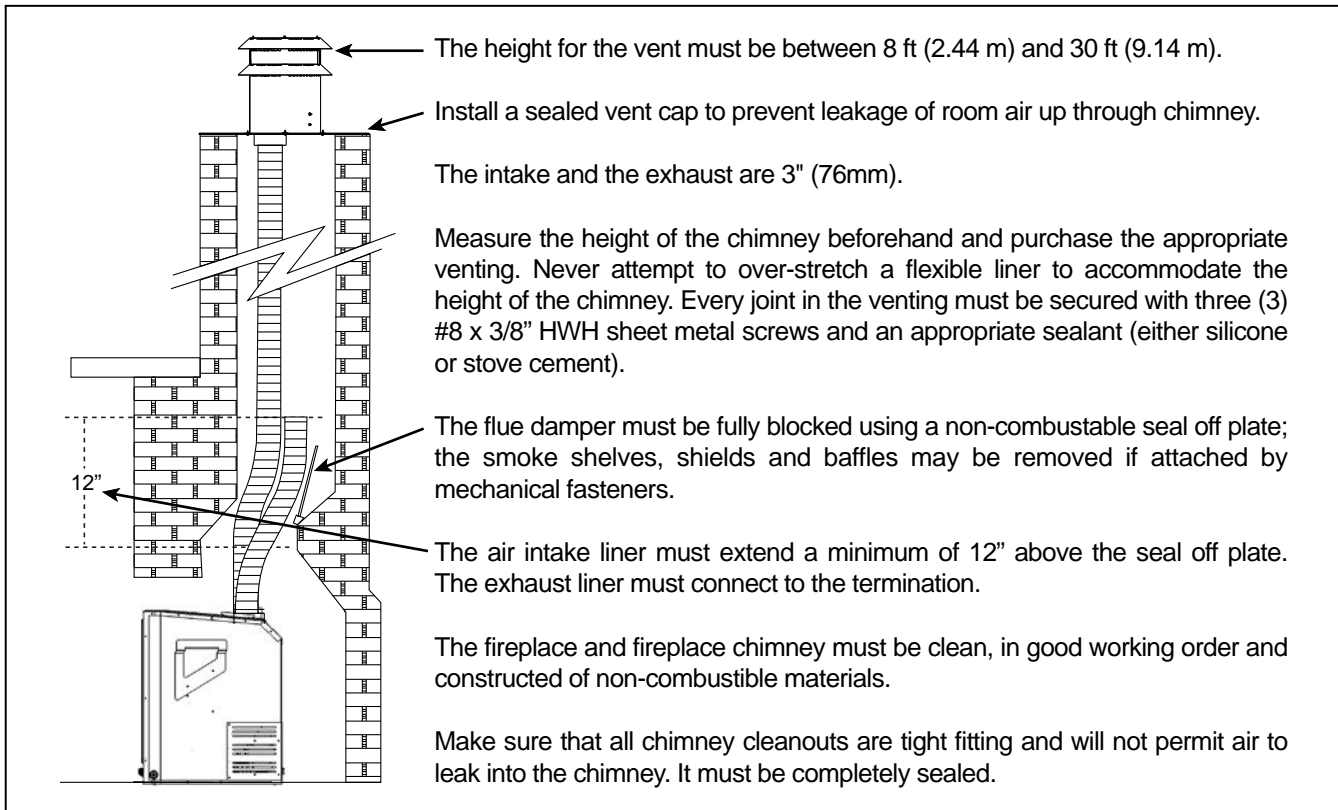

Figure 19: Installation of E33 DV .
1. Plan your installation and clearances to combustibles. The E33 may be installed and vented into any solid fuel fireplace that has been installed in accordance with the National, Provincial/State and local building codes and has been constructed of non-combustible materials. Also refer to the INITIAL INSTALLATION - PREPARING YOUR E33 FOR INSTALLATION and CLEARANCES TO COMBUSTIBLES sections. Refer to Figure 19 throughout installation.